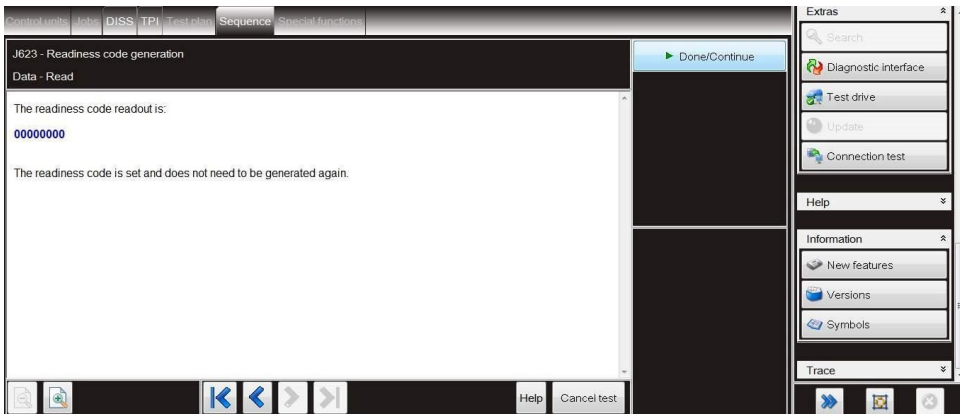

Figure 7
9. At this point check and confirm the actual readiness code, the readiness code MUST be as shown in Figure 7